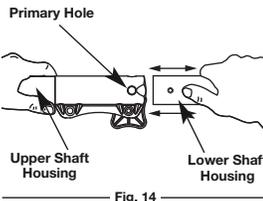

Fig. 14
3. While firmly holding the upper shaft housing, pull the cutting attachment or add-on straight out of the Rapid Link™ coupler (Fig. 14).
2. While firmly holding the add-on, push it straight into the Rapid Link™ coupler (Fig. 14).